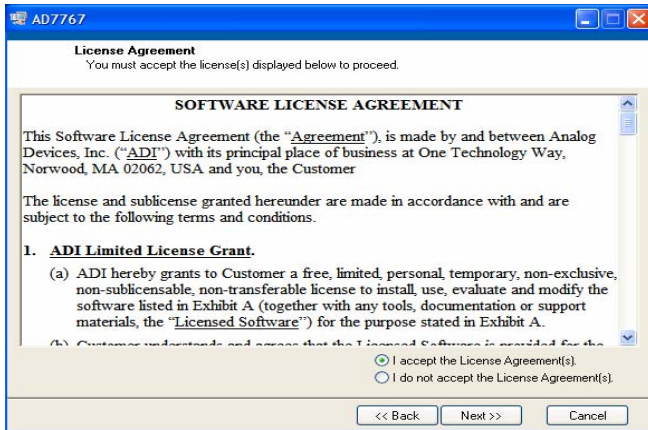

Figure 4. AD7766/-1/-2 Evaluation software install 3.
- 3) Accept the license agreement by selecting the correct option and clicking “Next” as shown in Figure 4.
- 5) On completion of the installation, the window as shown in figure 4 is displayed.